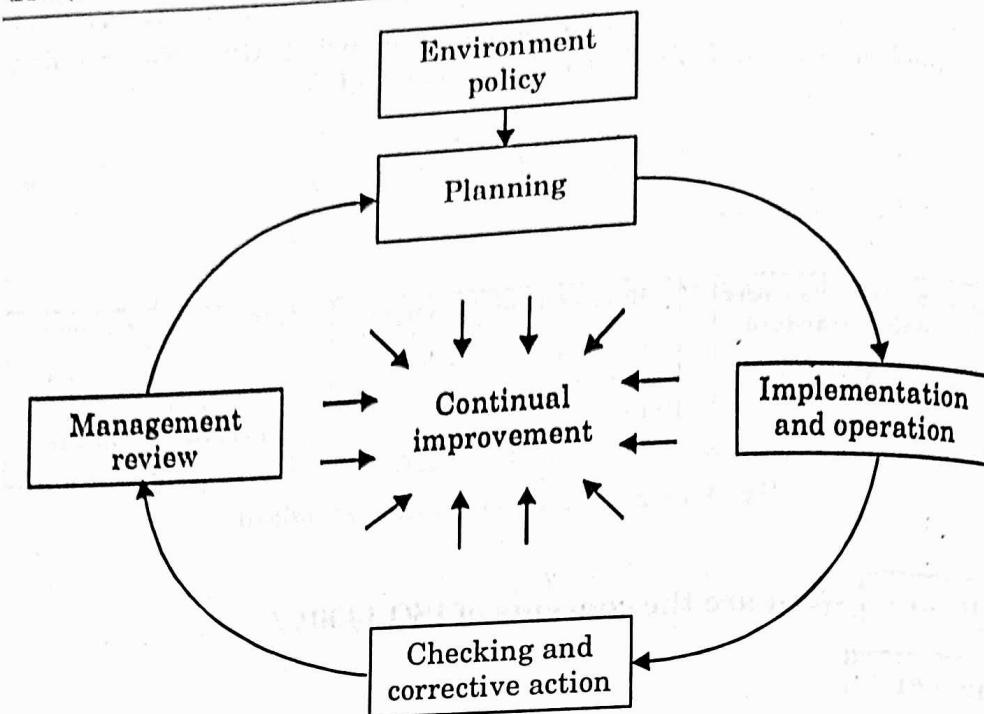

**Fig. 5.15.2. Product evaluation standards**
1. These standards are under development and are shown in Fig. 5.15.2.